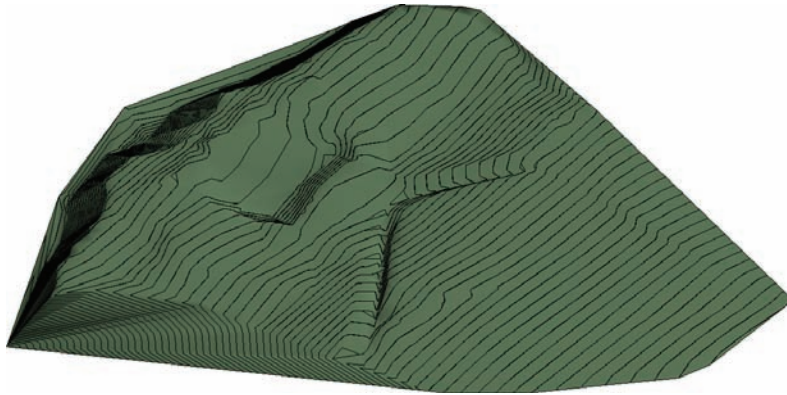

FIGURE 18.35 The new toposurface in Revit
9. Go to a 3D view. Your topography should look like Figure 18.35.